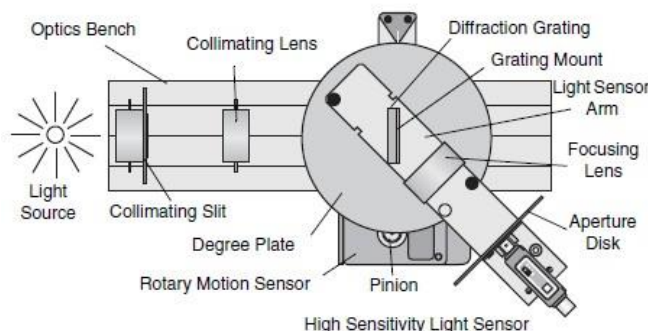

Figure 3: Spectrophotometer System (top view)
2. Collimating the system: the Collimating Slit must be at the focal point of the first lens and the Sensor Mask and Aperture Disk must be at the focal point of the second lens. Move the spectroscopy table back to the end of the track it is out of the way. Place the Blackbody Light Source near the end of the track and the Collimating Slit near the blackbody light source. Move the Collimating Lens (see figure 3 above) at least 12 cm from the slit. Have someone with 20/20 vision (corrected by glasses is fine) look through the lens at the slit. Move the lens toward the slit until it first comes into sharp focus. The slit should be about 10 cm from the lens. Now move the spectroscopy table as close to the Collimating Lens as possible. Set the Focusing lens 10 cm from the Sensor Mask. We will adjust this more exactly later.